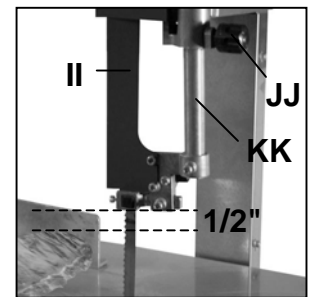

Figure 18
Adjust the vertical placement of the Blade Guard (II) so there is a maximum 1/2" space between it and the top of the meat to be cut. To adjust the Blade Guard, loosen the knob (JJ) on the Blade Guard and raise or lower it to expose more or less of the blade. Once in the desired position, tighten the knob. NOTE: There is a flat side on the Guide Post (KK) that must face the knob to work properly. (Figure 18)